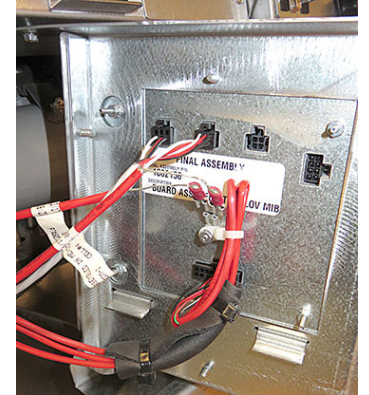

Figure 19
24. Swing the MIB board towards the right to access the connections on the rear of the board (see Figure 19).